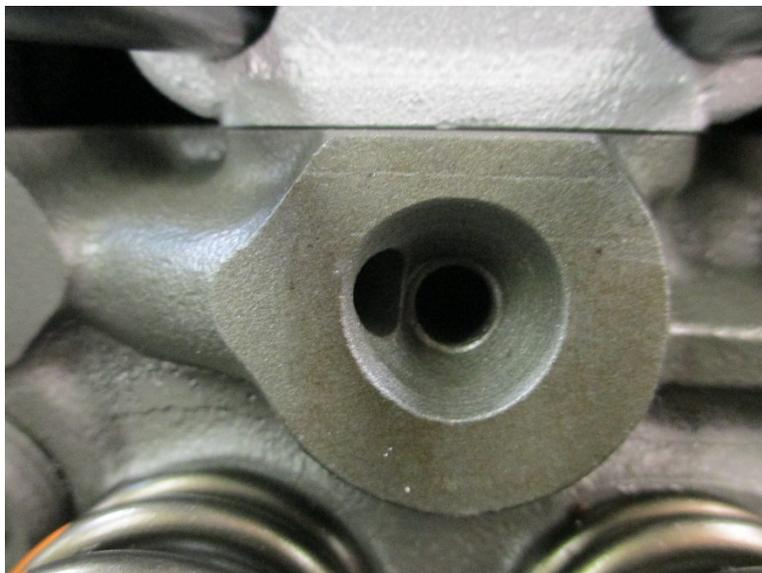

Fig. 4 - Oiling Stud Hole
3. Separate the 1/2" 12-point nut from each of the provided studs. (**Note:** One of the four studs is longer than the others and has a larger oil groove. This stud will always go in the oiling stud location second to the leftmost position, as depicted in **Fig. 4**. If the incorrect stud is put in this location, the rocker arm assembly will not receive the oil required for lubrication.)